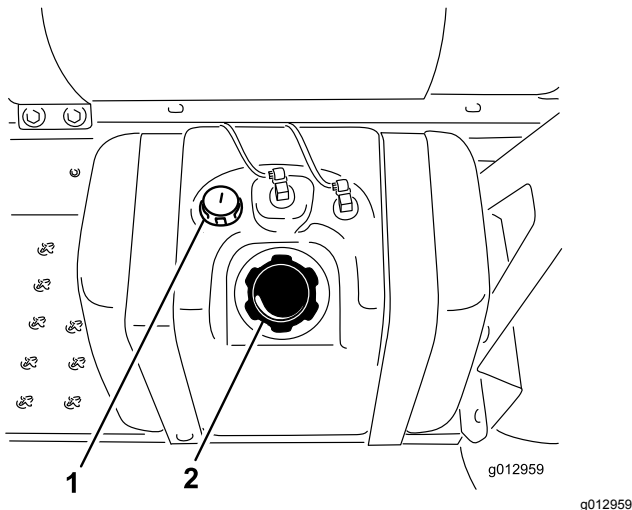

Figure 20
3. Clean the area around the fuel tank cap (Figure 20).